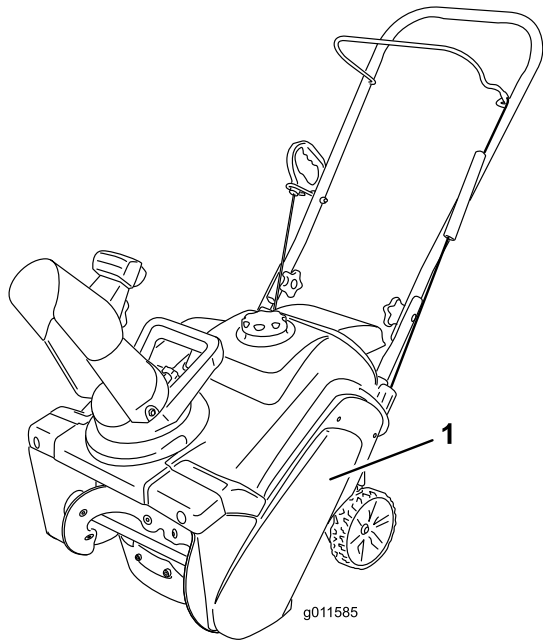

Figure 29
1. Remove the 4 bolts that hold the drive-belt cover (Figure 29) in place.